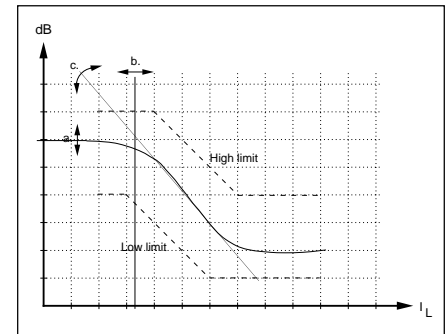

Figure 12. Gain regulation principle.
3. Set the attac point where the line length regulation is supposed to cut in (R1 and R2). Note that in some countries the line length regulation is not allowed. In most cases the endresult is better and more readily achieved by using the line length regulation (line loss compensation) than without. See fig. 12.
There is a fixed default compensation on the chip that can be adjusted or set to constant high or low gain mode. The input impedance at the gain regulation pin 6 is $5.5k \pm 20\%$. The default regulation pattern is valid when the input is left open. Fig. 12 shows a typical transmitter or receiver gain pattern versus line length. The following will show, what to alter, to change the look of the curve.